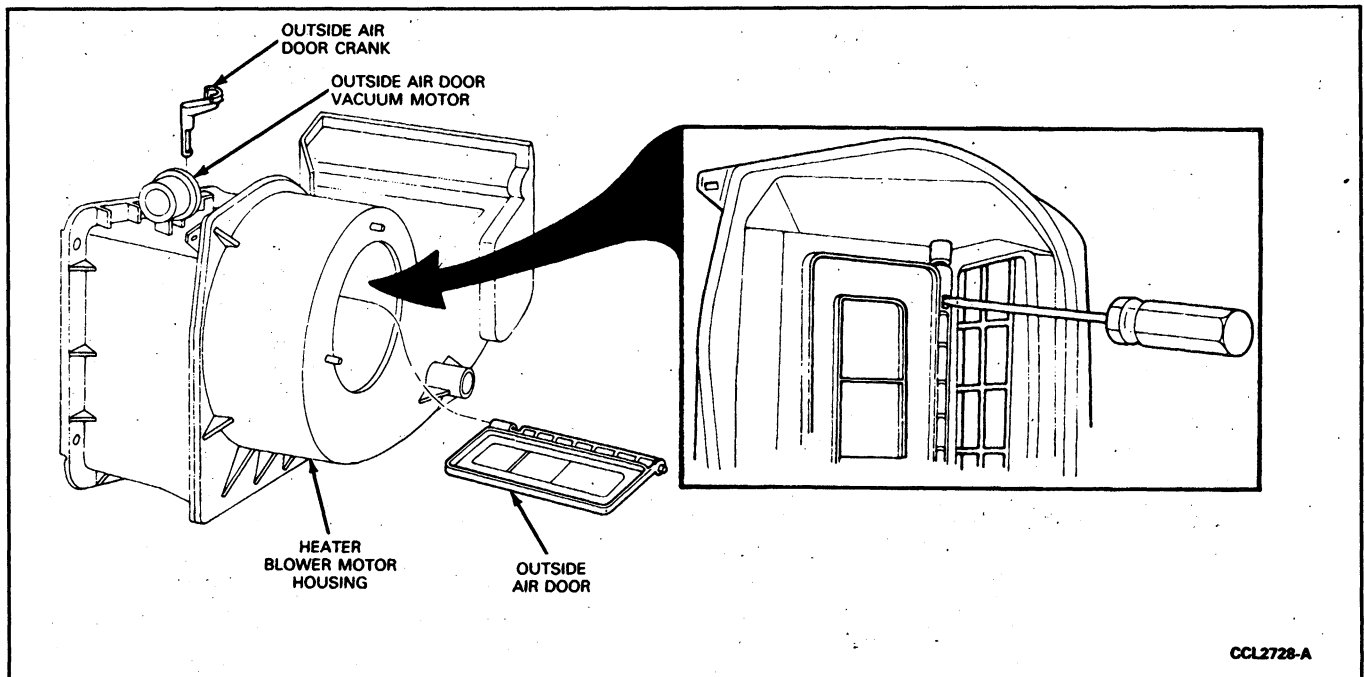

FIG. 16 Removing the Outside Air Door Crank
crank, while pulling up on the door shaft to release the crank from the door (Fig. 16).
2. Hold door in full outside air position (swing to full-in board position) and snap in crank (Fig. 16).